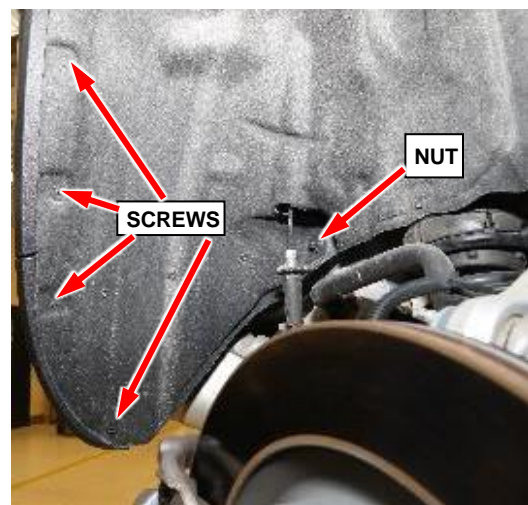

Figure 6 – L Rear Wheel Liner Fasteners
7. On L models with 3 row seating, the exhaust hangers can be accessed by removing the bottom of the wheel well liner and rolling it up out of the way (Figure 6).